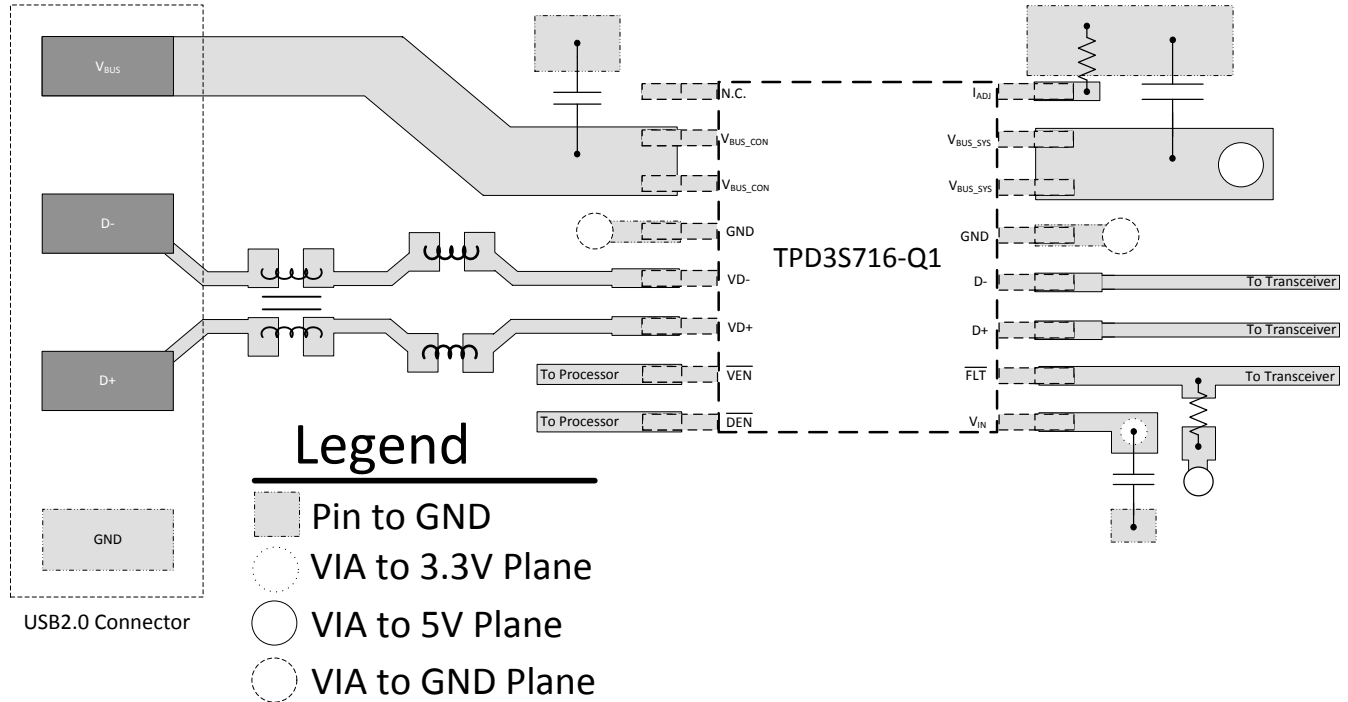

图 11-1. Typical Layout Example for TPD3S716-Q1
**Figure 11-1** shows a full layout for a standard USB2.0 port. A common mode choke and inductors are used on the high speed data lines, and the requisite bypassing caps are placed on V_{BUS_CON}, V_{BUS_SYS}, and V_{IN}.